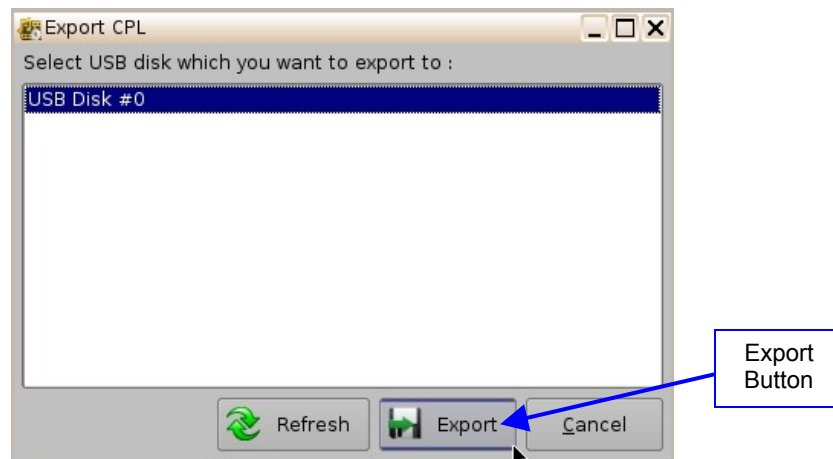

Figure 62: Export CPL Window
- Select the location to export the CPL to (e.g., USB Disk #0) and then click the Export button (Figure 62).